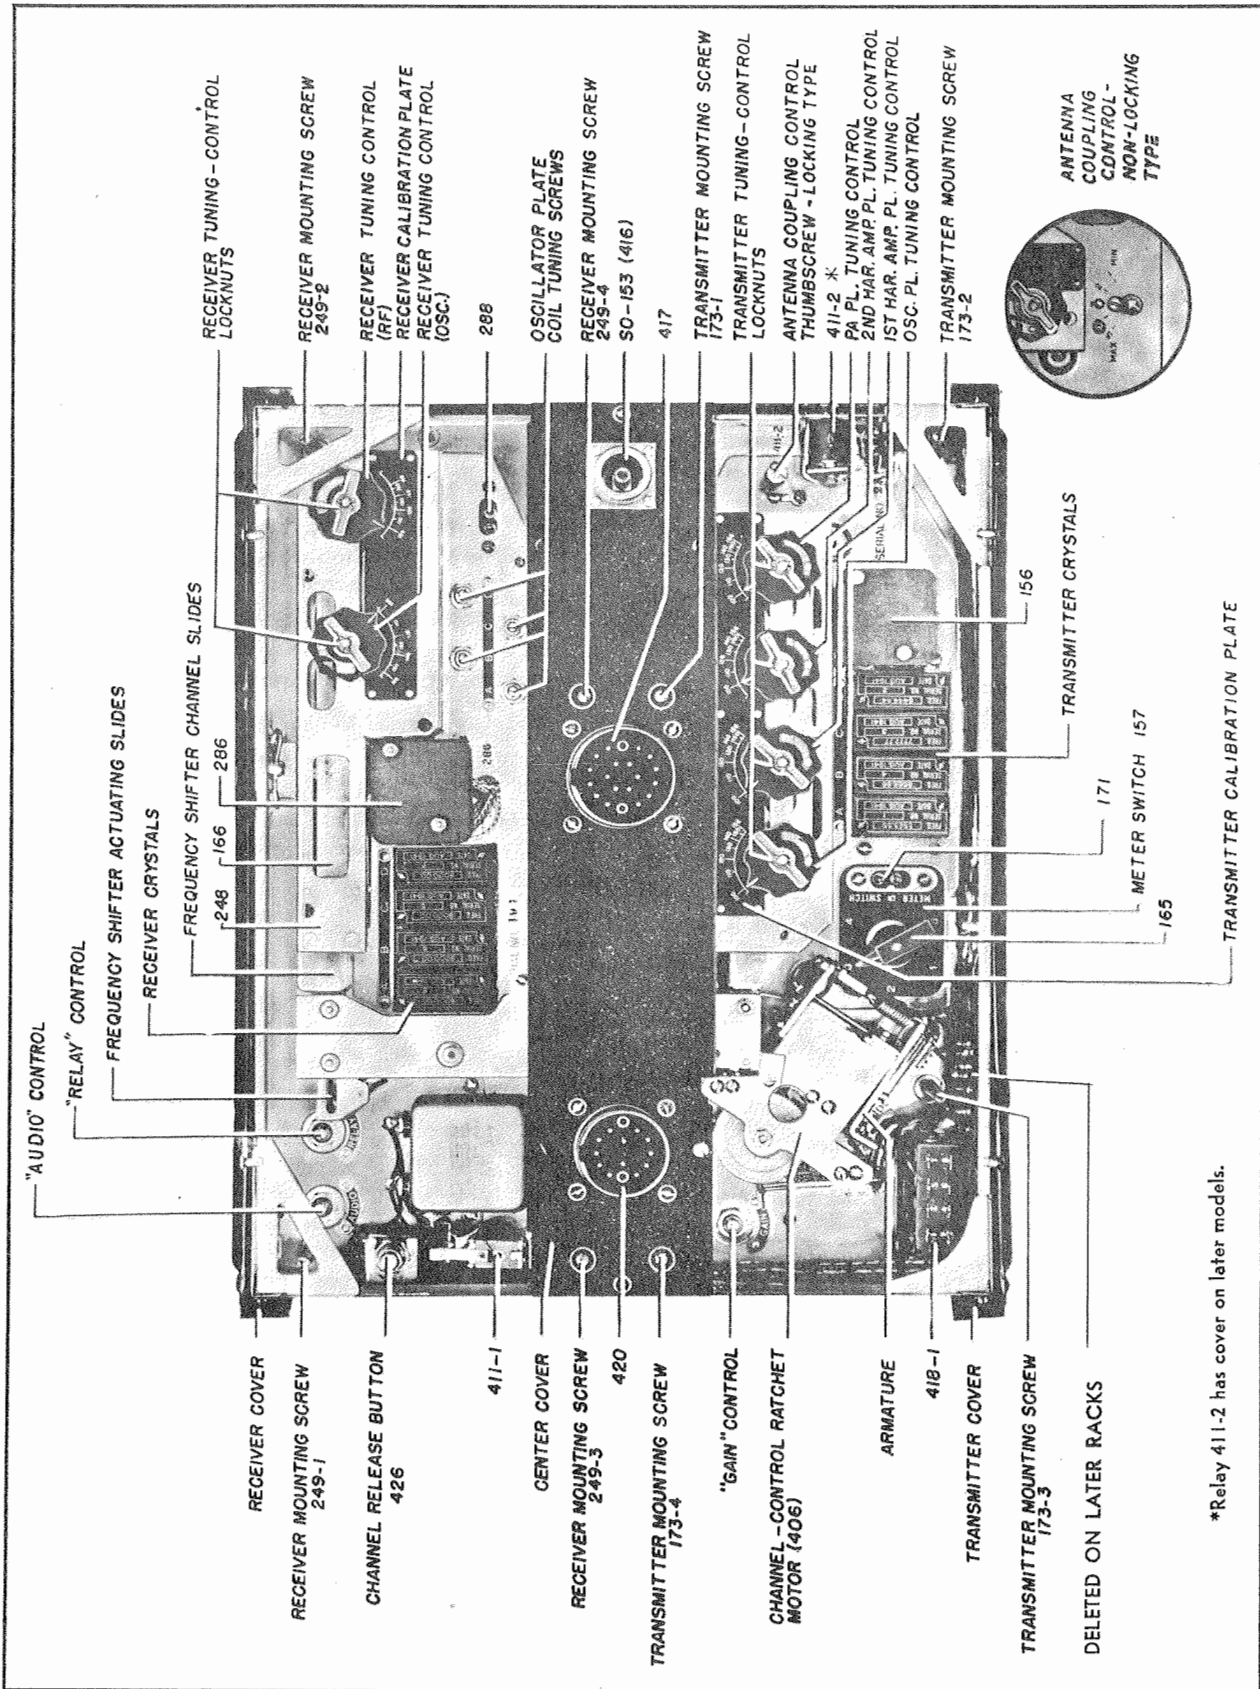

Figure 2-1. Transmitter-Receiver Assembly—Covers Open, Top View
(3) RADIO TRANSMITTER.—The transmitter occupies half of Case CS-80-A or CS-80-C. The top (*see fig. 2-1*) is equipped with four tuning controls, a receptacle for the d-c meter cord, and a "METER SWITCH." The antenna-coupling control (*see fig. 2-1*) is located on the right side of the transmitter panel, and the "GAIN" control* is on the left. Four crystal sockets are to the right of the "METER SWITCH" and are identified by the channel letters "A," "B," "C," and "D."
(4) RADIO RECEIVER BC-624-A OR BC-624-AM OR BC-624-C.—The radio receiver occupies the other half of Case CS-80-A or CS-80-C. The top contains the audio control, the relay control†, two receiver tuning controls, four oscillator plate coil tuning screws, the channel shifter release button, and sockets for the four receiver crystals. (*See fig. 2-1.*)
(5) CRYSTAL UNIT CR-1/A.